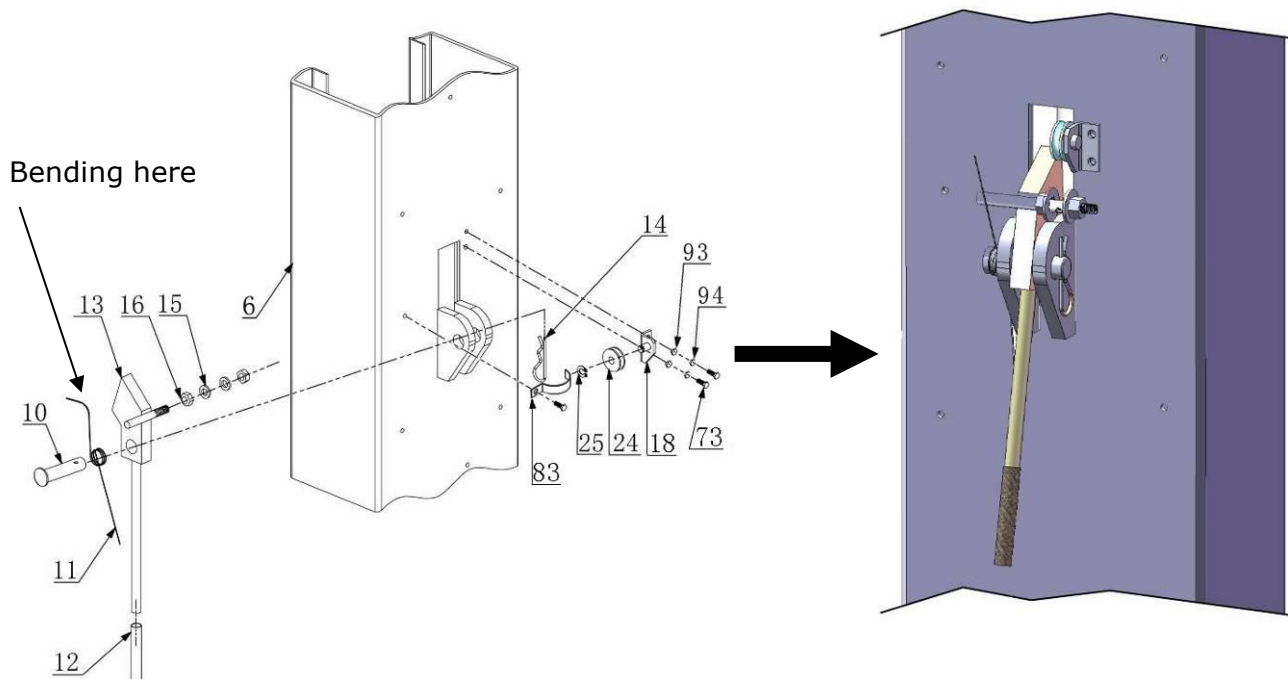
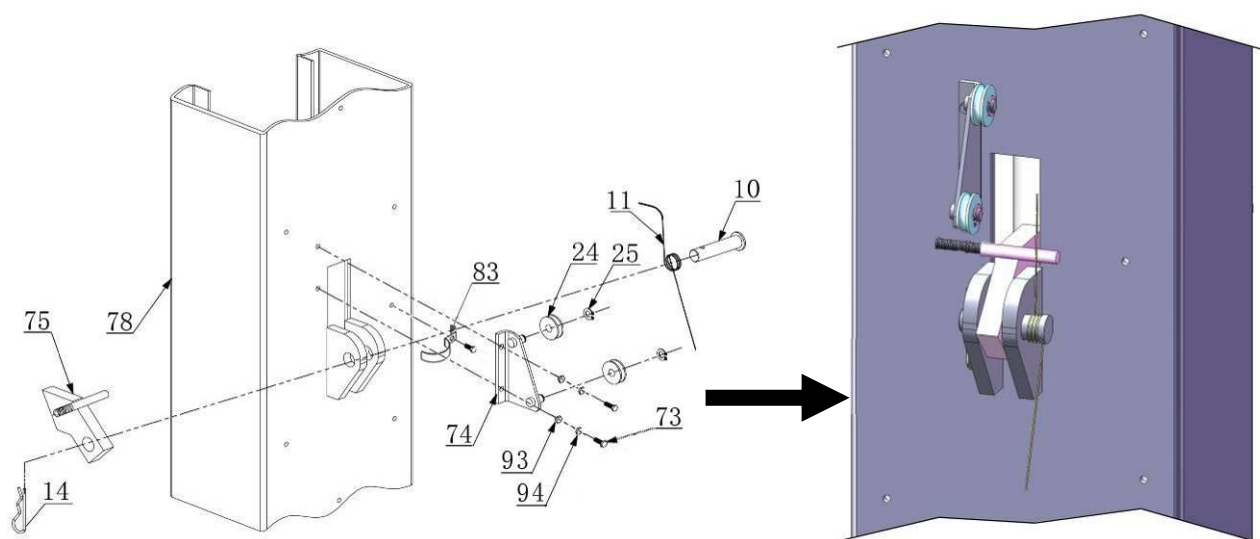

Fig. 21 Powerside Safety Device
Fig. 22 Offside Safety Device
I. Install safety device (See Fig. 21 & Fig. 22).